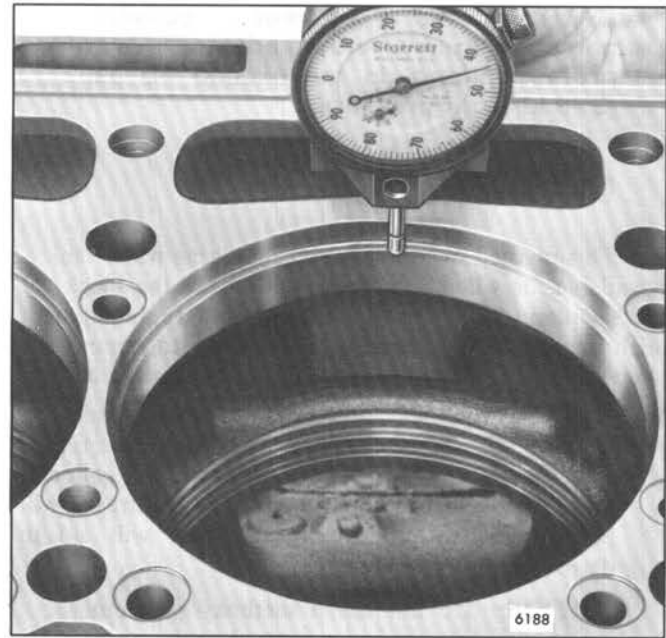

Fig. 7 – Checking Depth of Counterbore with Tool J 22273
3. Make sure the cylinder liner counterbores in the block are clean and free of dirt. Then, check the depth (Fig. 7). The depth must be either .4755" to .4770" or .4905"–.4920" and must not vary more than .0015" throughout the entire circumference. There must not be over .0015" difference between any two adjacent cylinder counterbores when measured along the cylinder longitudinal centerline of the cylinder block.